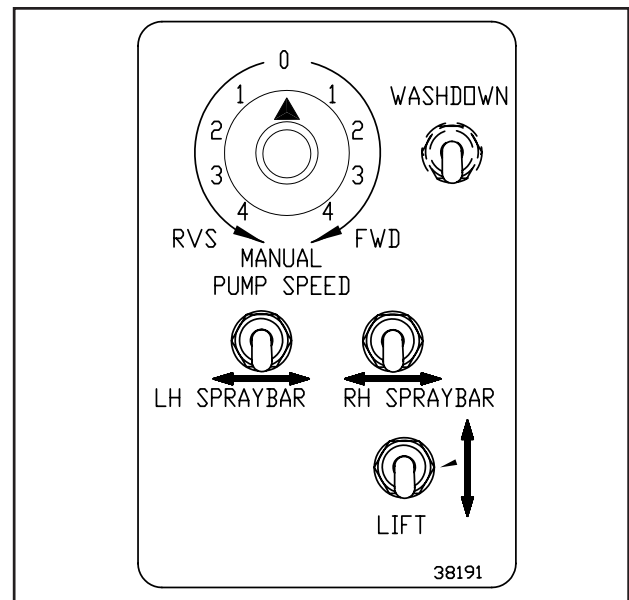

FIGURE 3-18. REAR CONTROLLER
9. Using the Rear Controller (Figure 3-18), turn the Manual Pump Speed dial **slowly** in FORWARD direction to provide suction to the line (50 - 75 GPM).
12. Using the Rear Controller (Figure 3-18), run the asphalt pump in FORWARD at 50 - 150 GPM.